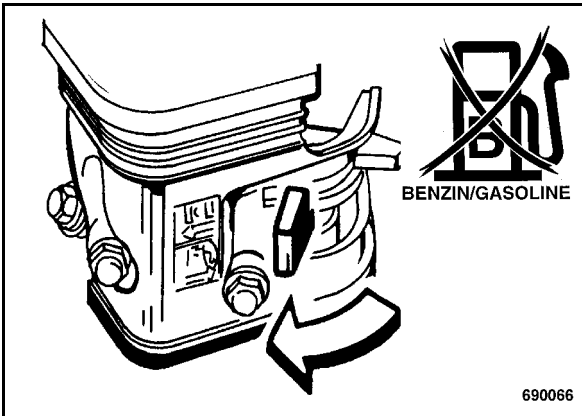

Fig. 29
- Close the fuel tap (Fig. 29) by turning in direction of arrow.